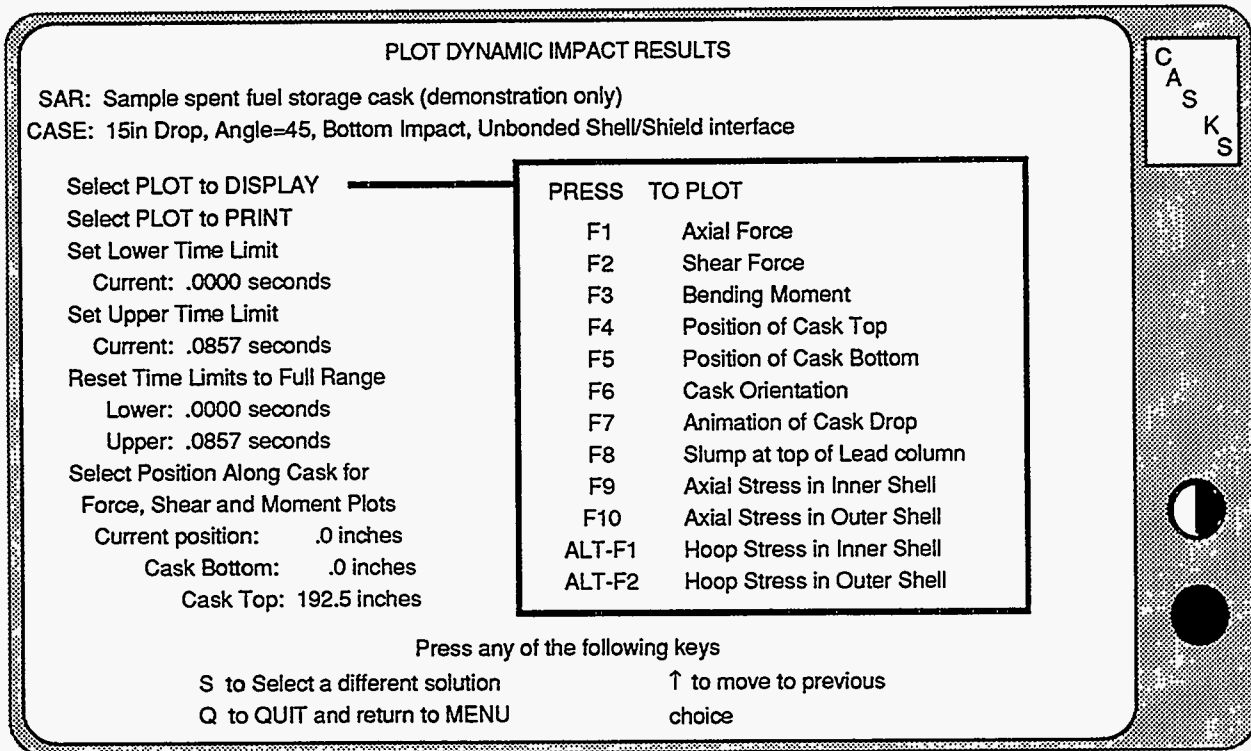

Figure 5-3. Select Plots and Display Parameters Screen
- (2) Use the keypad up and down arrow keys to highlight the desired case. Press **S** to select the indicated solution for plotting. **CASKS** displays the Select Plots and Display Parameters Screen (Figure 5-3) and lists several options.